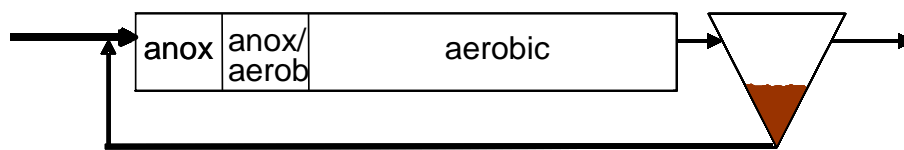

Figure 1: Flow scheme of Btown wastewater treatment plant
The wastewater treatment plant Btown is located in Western Europe and is designed for 50'000 population equivalents (PE). The biological stage consists of two non-aerated and one bigger aerated reactor. Figure 1 shows the plant layout and Table 1 gives the required information.